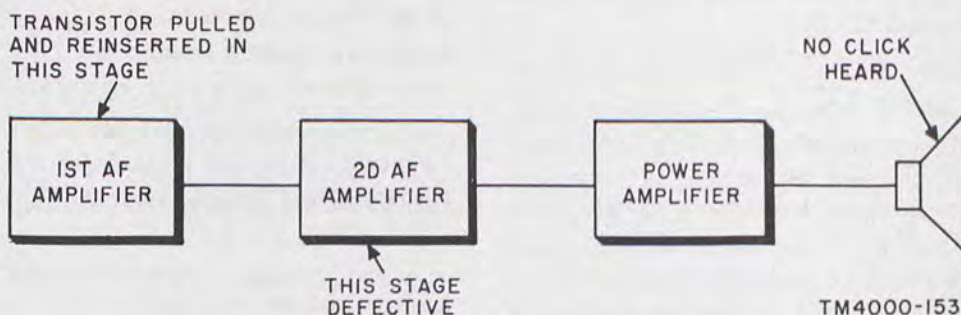

Figure 117. Transient method of troubleshooting.
- (1) Starting with the audio stage immediately preceding the speaker (fig. 117), pull the transistor out of its socket just far enough to break its connection in the circuit. Immediately reinsert the transistor. A click should be heard from the speaker.
- (2) Repeat the procedure for each stage in succession, working back from the indicating device.
- (3) A click should be heard each time a transistor is pulled out and reinserted and the click should get progressively louder with each stage tested.
- (4) If at any point in the test a click is not heard when the circuit is interrupted or a gain in amplification is not evident, the stage last tested is probably defective (fig. 117).